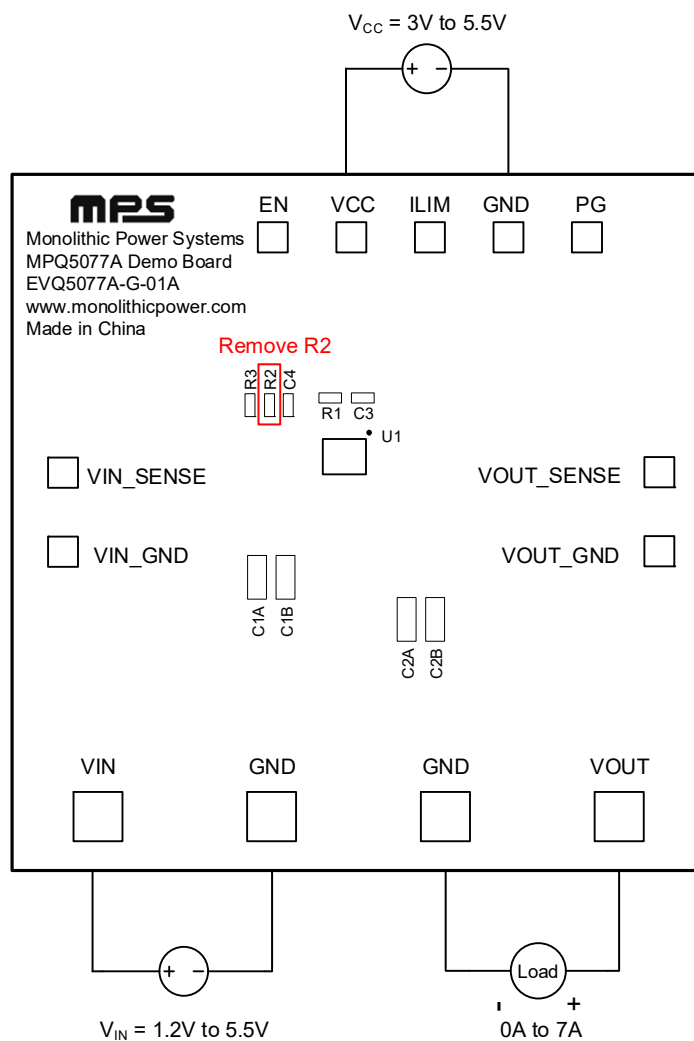

Figure 2: Measurement Equipment Set-Up (V_{IN} = 1.2V to 5.5V)
- If V_{IN} is below 3V, use two input supplies and remove R2. Figure 2 on page 3 shows this configuration.